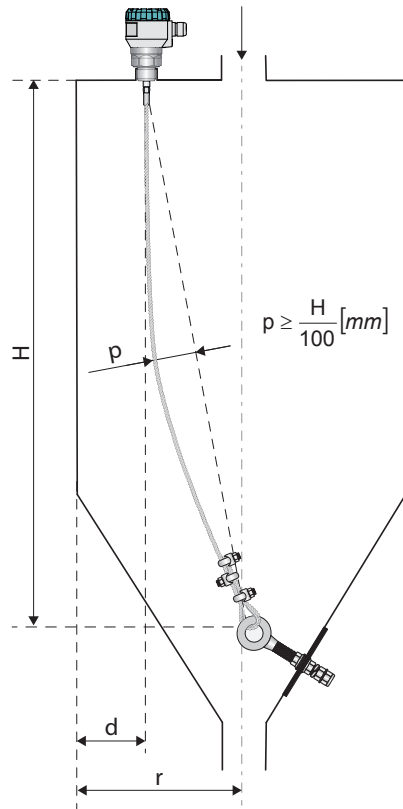

Fig. 20: Recommended installation of the level meter with anchoring on the opposite side of the silo
- For applications with bulk solids** it is appropriate to anchor the rope electrodes at the opposite sides of the tank (silo) so that the rope is sagging, see Fig.20. Minimum recommended sag is $p = H/100$ [mm]. This installation increases the resistance of the rope to tension load.
opposite side of the silo (Fig. 20)	any